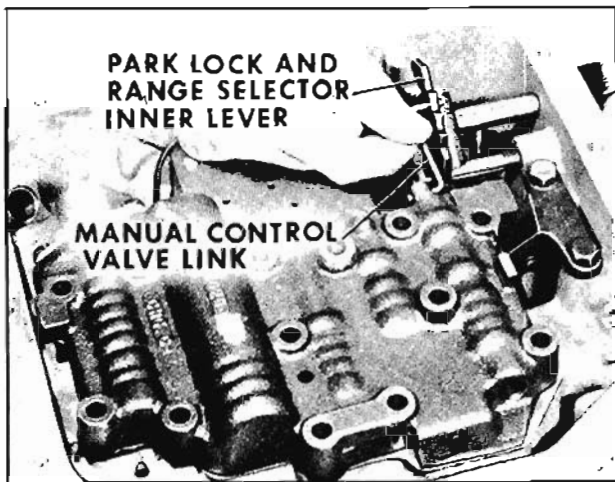

Fig. 6-460 Installing Link
4. Install manual control valve link into park, lock and range selector inner lever. (Fig. 6-460)